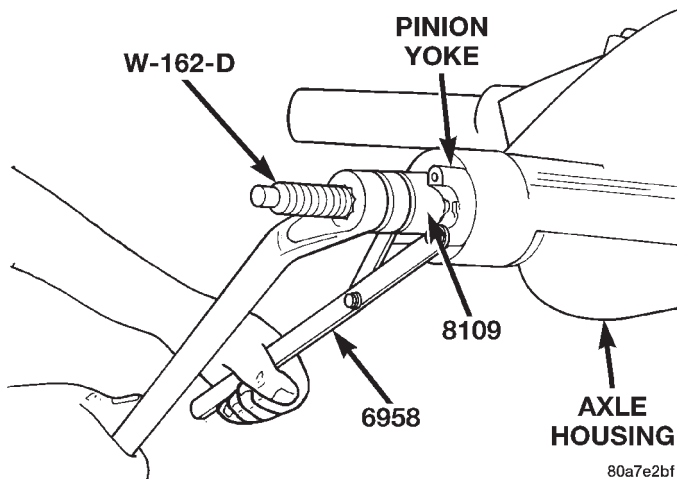

Fig. 13 Pinion Yoke Installation
- (2) Install yoke, or pinion flange, on the pinion gear with Installer W-162-D, Cup 8109, and Holder 6958 (Fig. 13).